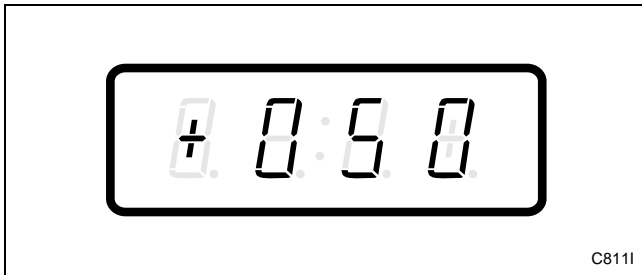

Figure 61
3. Press the DELICATES (+) or the COLD (-) keypad to scroll through the programmable options until “+050” appears in the VFD. Refer to *Figure 61*.